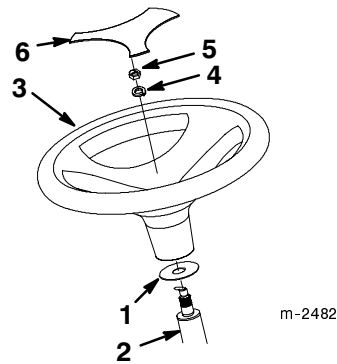

Figure 7
1. Install the boot washer onto the steering shaft (Fig. 7).
2. Remove the plastic trim cover from the steering wheel (Fig. 7)
3. Install the steering wheel onto the shaft, carefully aligning the splines (Fig. 7).
4. Secure the steering wheel to the shaft with a lock washer and nut (Fig. 7). Tighten the retaining nut to 45-50 ft-lbs.